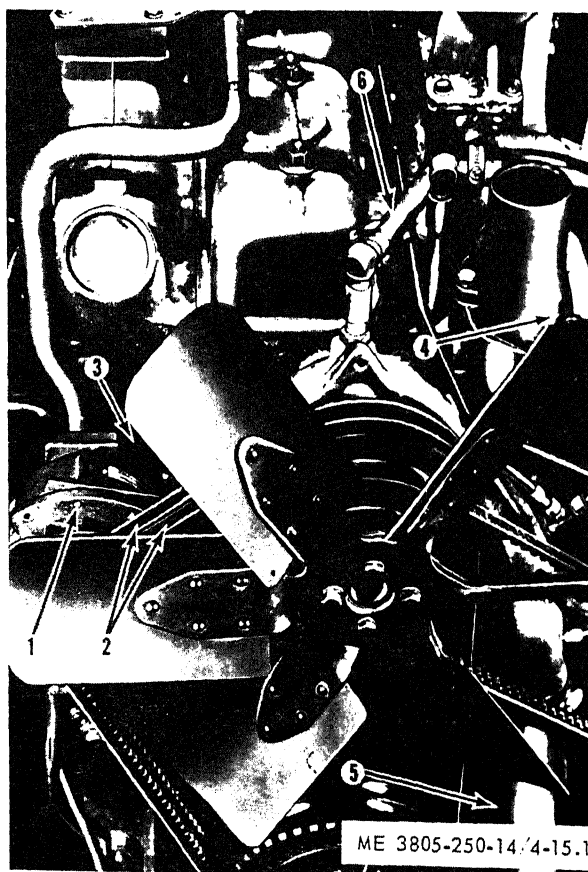

Figure 4-15.1. Water pump, removal and installation.
Figure 4-15.1 is added as follows:
(2) Loosen the alternator adjusting strap bolt (1, fig. 4-15.1) and remove the fan belt (2).
(3) Remove four bolts and lockwashers securing the fan to the pulley, and remove the fan.
(4) Disconnect the oil cooler line (3) and discard the gasket.
(5) Disconnect the clamp securing the by-pass hose (4) to the water pump housing.
(6) Disconnect the clamp securing the lower radiator hose (5) to the housing.
(7) Disconnect the air compressor line (6).
(8) Remove four bolts and lockwashers, and one washer and spacer securing the pump housing to the block. Remove the pump and discard the mounting gasket.